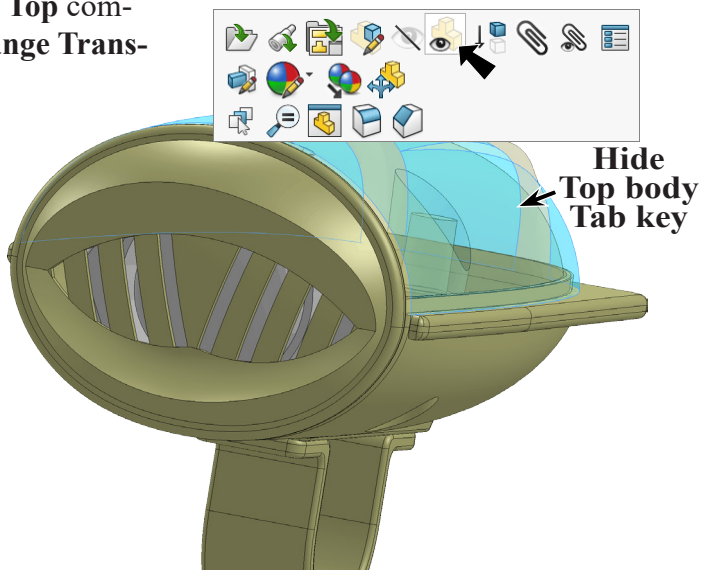

Fig. 15
Step 1. **Change Transparency back and Hide TOP**  part. To change transparency back, Click **Top** component in the graphics area and click **Change Transparency**  on the context toolbar, **Fig. 15**. Click part were Bottom part is not behind Top part.. Use **Tab key** to **hide Top**.